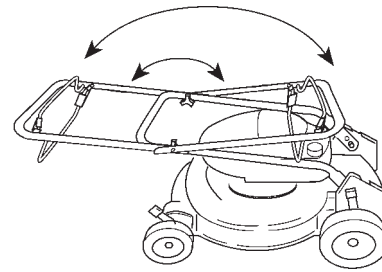

Figure 33
2. Rotate the handle toward the front of the lawn mower (Fig. 33).
3. Loosen the knobs that secure the upper handle section to the bottom section and fold the top handle section back toward the rear of the lawn mower into the storage position (Fig. 33).